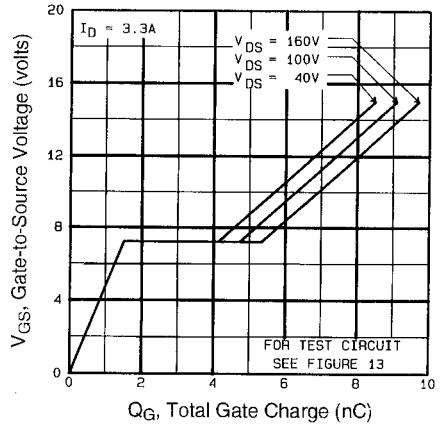

Fig 6. Typical Gate Charge Vs. Gate-to-Source Voltage
| Q _{gd} | Gate-to-Drain ("Miller") Charge | — | — | 4.5 | | V _{DS} =10V See Fig. 6 and 13 ④ |